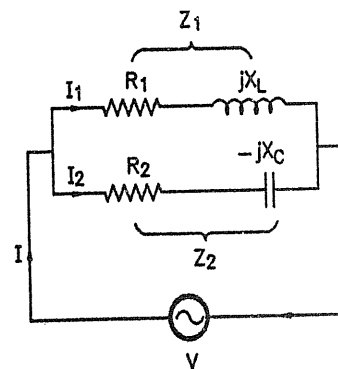

FIG. 2.68 : PARALLEL CIRCUIT
- Similarly for circuit of Fig. 2.68